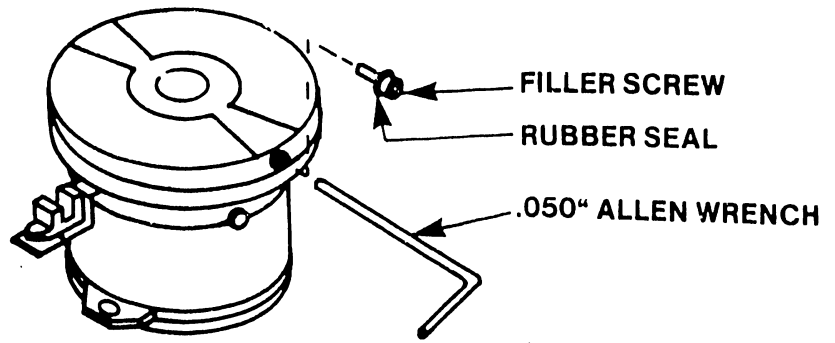

FIGURE 1. DAMPER REMOVAL
3. Position damper to provide access to filler screw (figure 1). Since the motor is energized, some resistance will be felt approximately every 1/8-inch of motor rotation while turning damper.